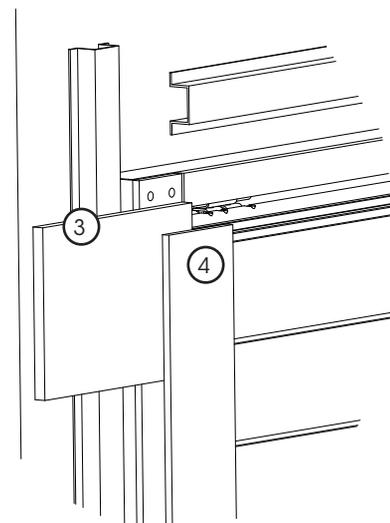

Fig: 3.8.3
- b) Remove the temporary cladding ③ & boards ④ from front of door. Fig 3.8.3.